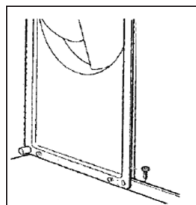

Fig. 5.
b) Match the icemaker to its storage bin, fixing them with the two screws supplied with the machine (Fig.5).